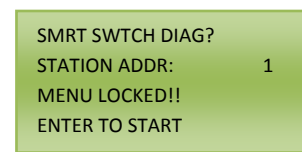

Figure 5.6
7. Press ENTER to start the test on the first Smart Switch. The LEDs on the Smart Switch should begin to blink on and off. To stop the test, press ENTER again. To change which Smart Switch that is being tested, press the RIGHT Arrow. Once all Smart Switches have been tested, this will complete the final test. See Figure 5.6 for a visual example.